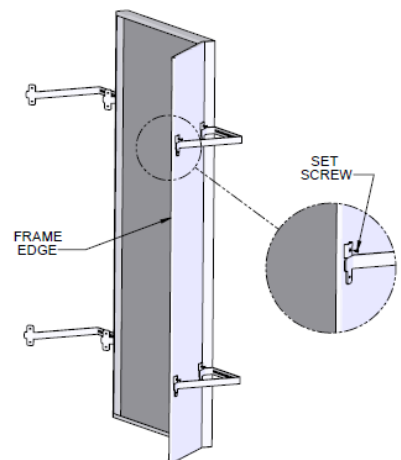

Figure 15
4. Once the mirror wings are in place on the wall mount bracket, to minimize the gap between the mirror and the wing and to secure the wing in place, gently push the wing frame edge towards the pre-installed Admire Mirror. With slight pressure applied to the wing frame edge, fasten the set screws through the frame bracket and into the wall mount bracket tabs. **See Figure 15**